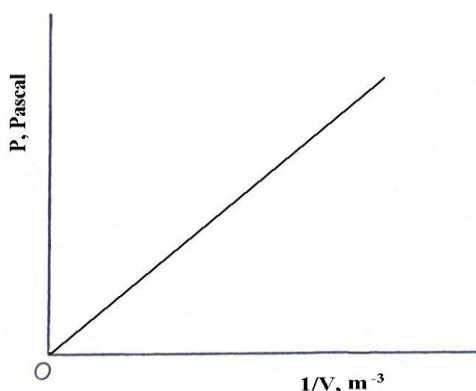

Figure 1: relationship between pressure and inverse of the volume of a gas at constant temperature
From *equation (3)*, representing P on the y -axis and $1/V$ on the x -axis we get a straight line passing through the origin as shown in **Fig. 1**. The *slope* of this line is equal to the constant nRT . Knowing R and T one can calculate n (the number of moles of the given mass of gas).